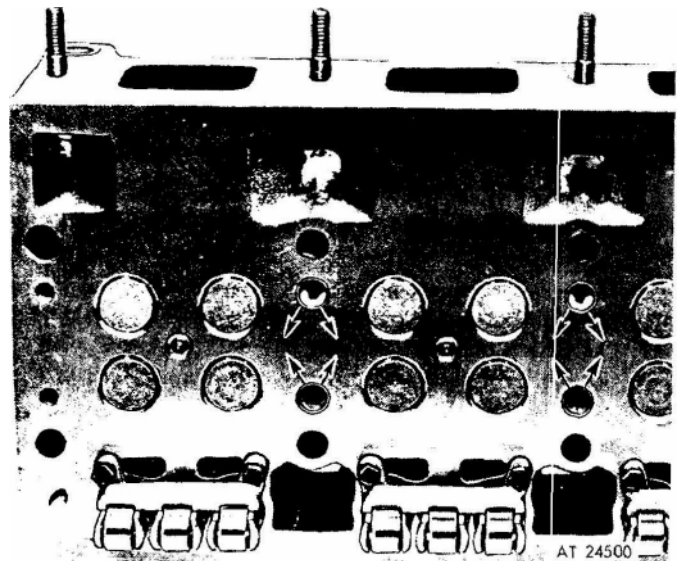

Figure 5. Correct installation of water nozzles in four valve cylinder head.
c. Press the nozzles into place with the outlet holes positioned as shown in figure 5. The angle between the outlet holes in the nozzles is 90° . The nozzles should be from flush to $1/32$ " below the bottom surface of the cylinder head, otherwise interference with proper seating of the head on the cylinder block may be *encountered*.